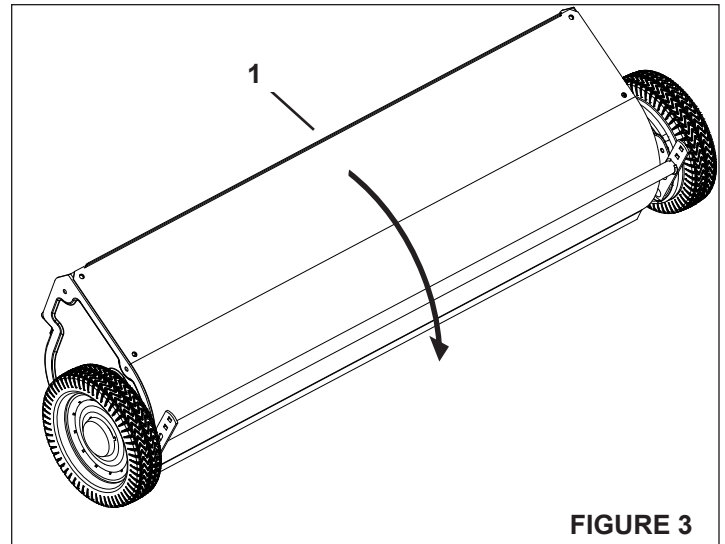

FIGURE 3
STEP 3: (SEE FIGURE 3)
- Tip the sweeper housing (1) forward until it rests as shown in figure 3.